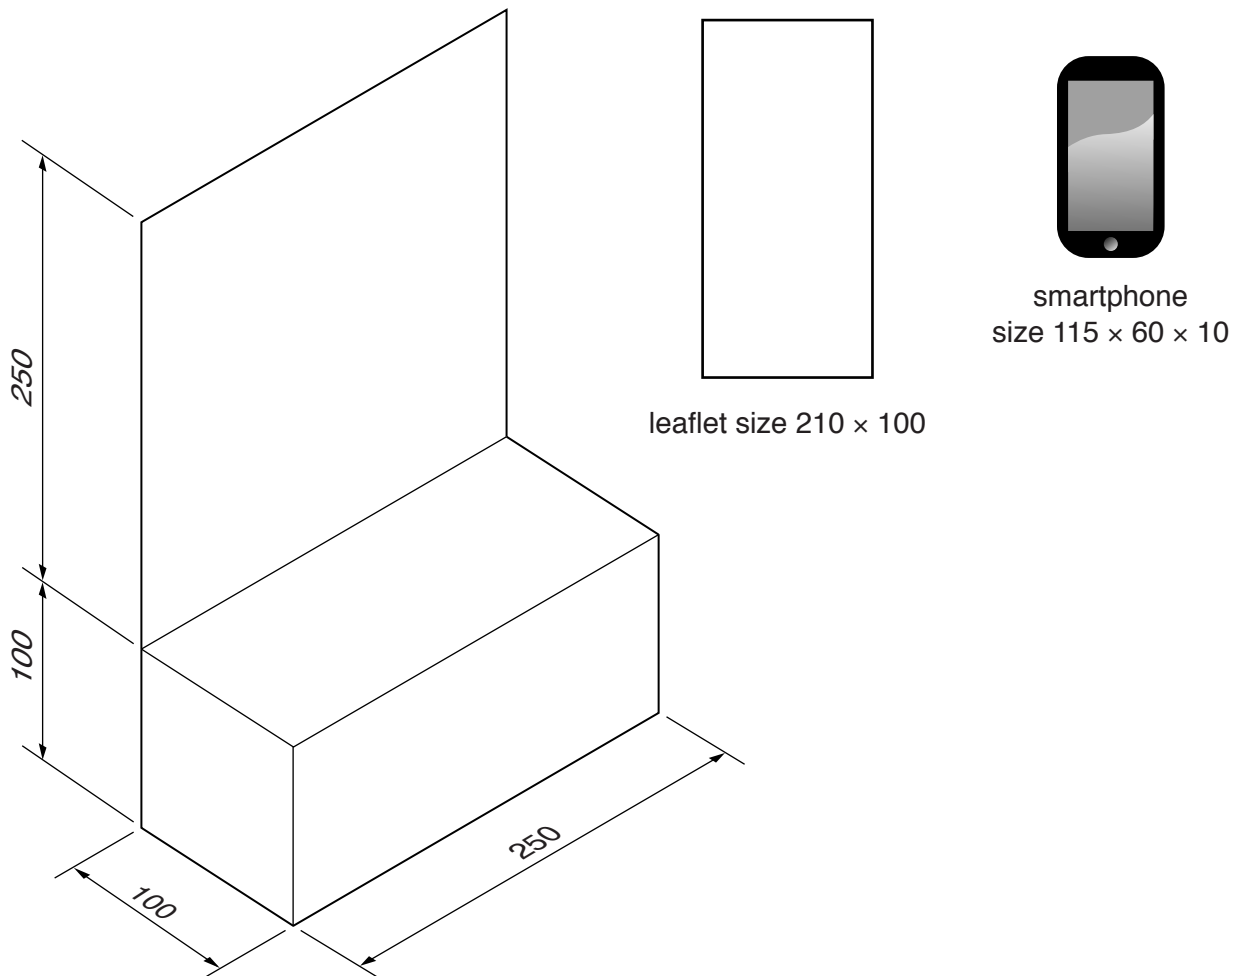

Fig. 8
- 8 Fig. 8 shows an incomplete idea for a point of sale display stand which will be used to promote a smartphone.